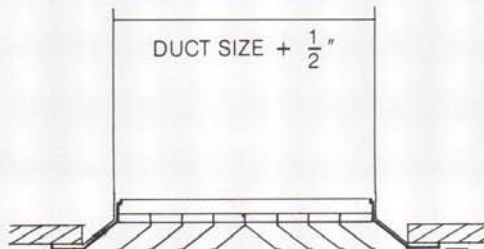

FIG. 1
- EXPAND THE AIR DUCT EDGE IN ACCORDANCE WITH DIFFUSER SECTION AND FIX DIFFUSER FRAME TO AIR DUCT WITH SCREWS THEN SNAP IN DIFFUSER CORE TO THE FRAME (FIG 1)